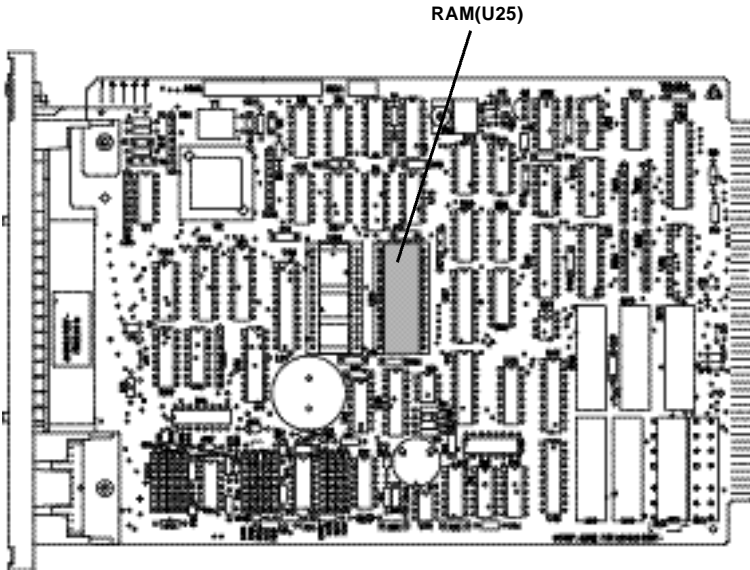

Figure 5-6. RAM chip position on the control/test module.
3. Remove the RAM chip from position U25 (Figure 5-6) on the control/test module.